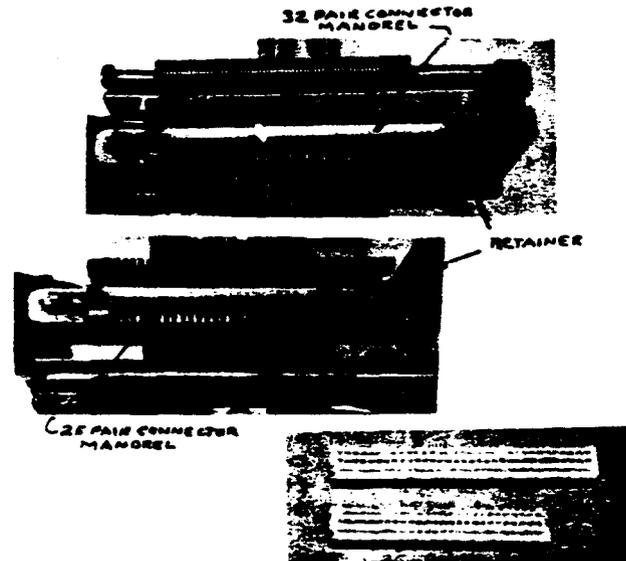

FIG. 18 RETAINER POSITIONS
4.26 The tool is designed to accept ~~12~~ 25 or 32 wire mandrels. The mandrel retainers must be spaced in the tool so as to accept the specified mandrel size. See Fig. 18. ~~R4861-DET-6~~ retainer tool is used to change retainer position.